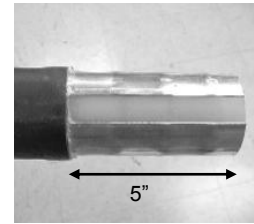

Figure 2
- a) **Remove 5" of jacket and tape using razor knife (Figure 2).** (Tool required: Razor Knife)